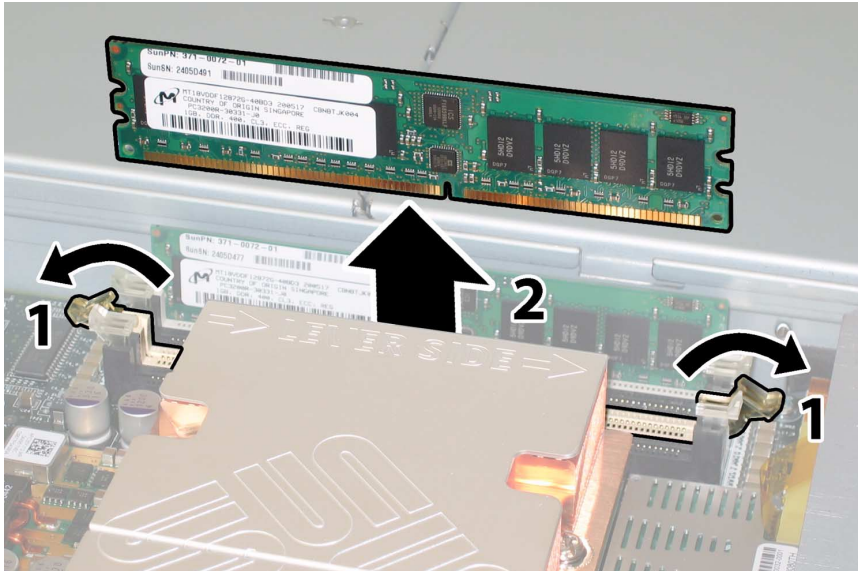

FIGURE 3-50 Releasing and removing the DIMM
3. Identify the DIMM to remove and press the ejector levers open, releasing the DIMM (FIGURE 3-50).